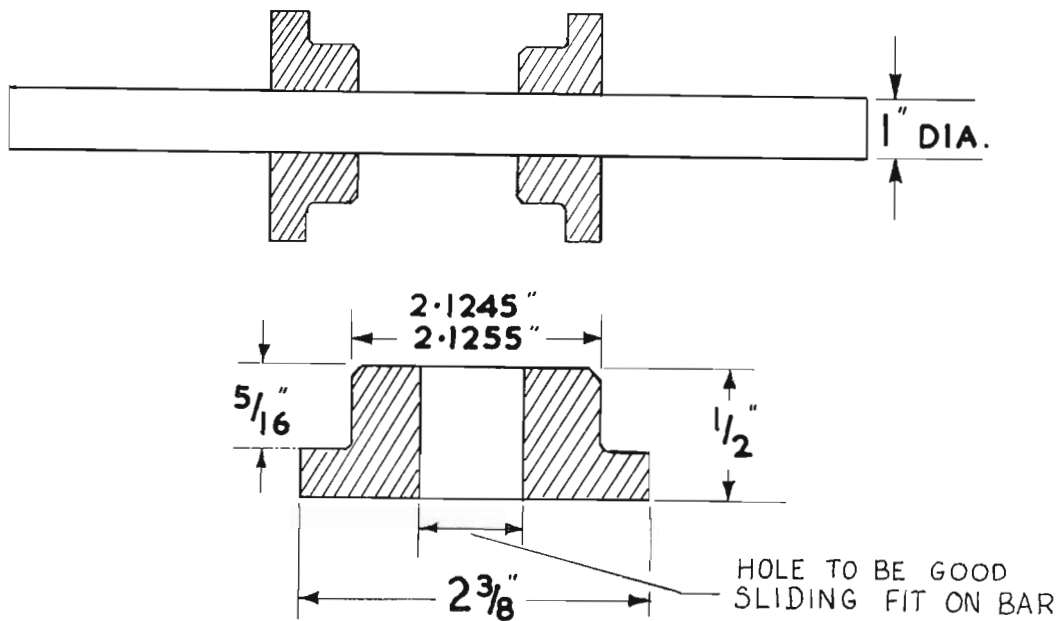

FIG. D.3. *Steering head mandrel.*
- One mandrel and two blocks, as in Fig. D.3